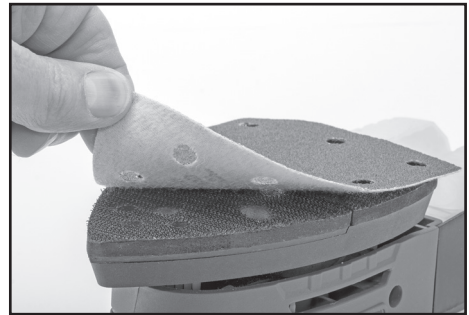

FIG.2
8.2 ABRASIVE SHEET INSTALLATION/REPLACEMENT – FIG. 2